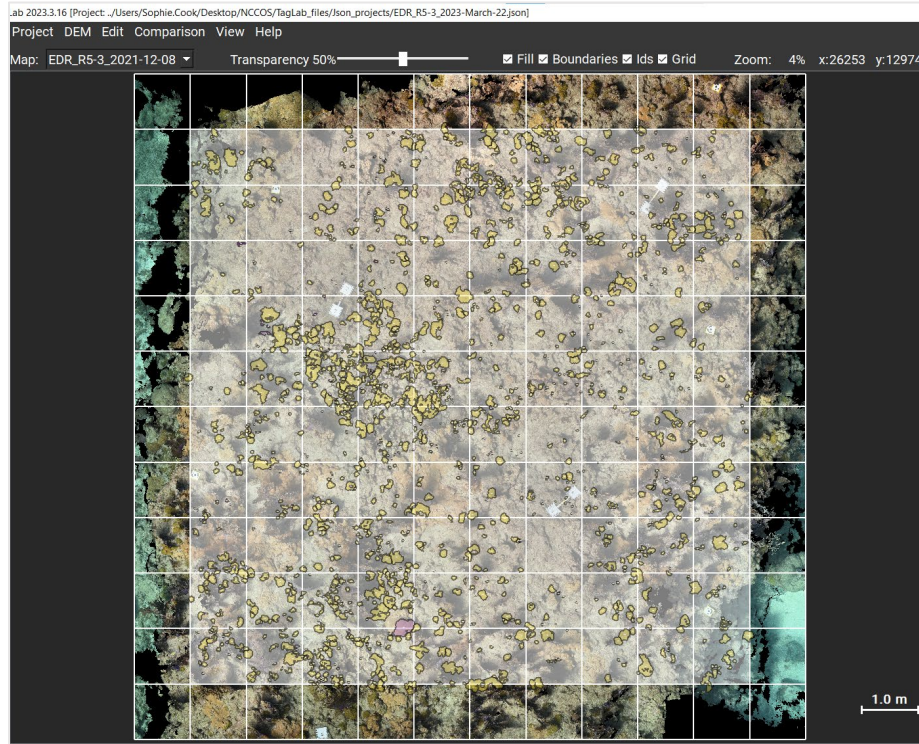

Figure 146. Example of the grid cells to be traced and a finished map (10 × 10 m) with a 1-m buffer for reference.
- Trace all coral colonies inside the inner 10 × 10 m grid (Figure 146).